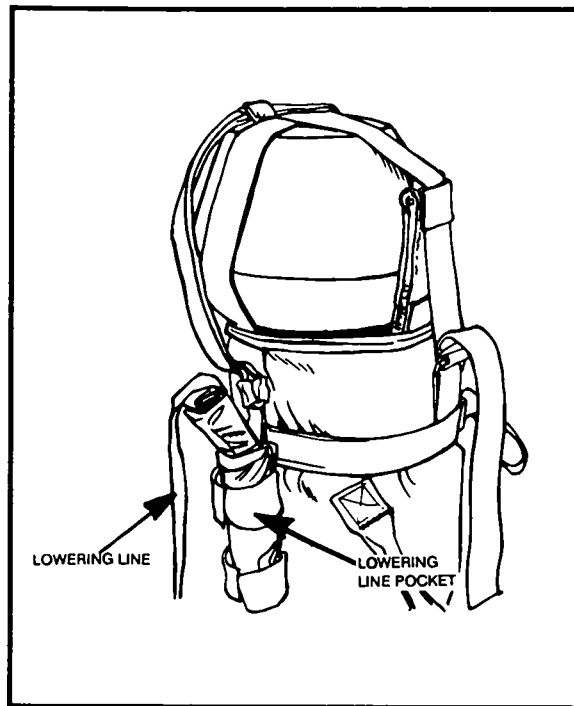
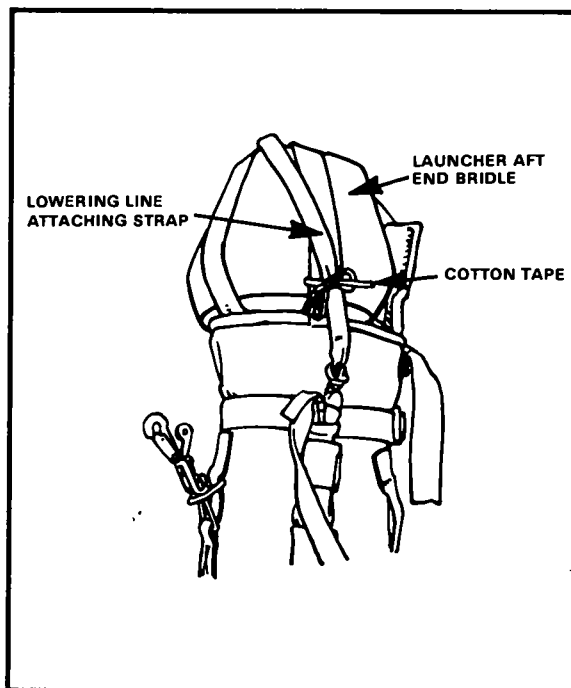

Figure 6-41. Lowering line inserted in pocket.
Figure 6-42. Lowering line attaching strap secured.
(2) S-fold and place the lowering line inside the lowering line stow pocket (Figure 6-41). Tighten the securing tabs (Figure 6-42). The quick-ejector snap end of the HPT lowering line protrudes from the lowering line stow pocket.